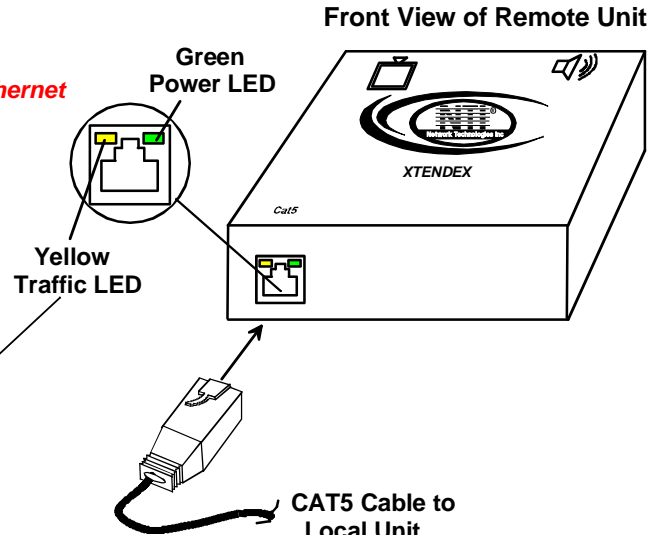
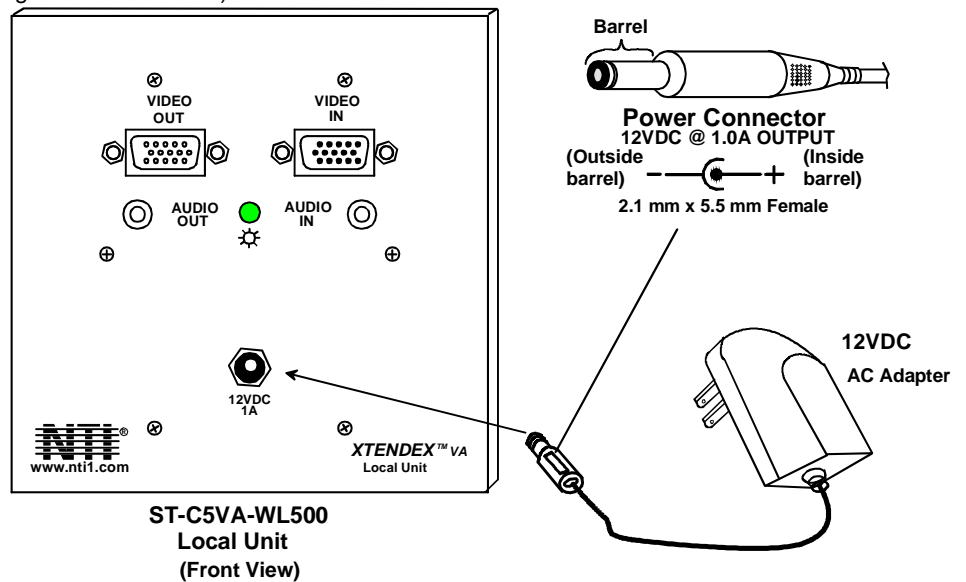

Figure 6- Connect the CAT5 cable to the Remote Unit
Figure 7- Connect the AC adapter to the Remote Unit
Make sure the CAT5 cable has been installed in accordance with the “Preparation for Installation” instructions on page 3. Connect the CAT5 cable to the “Cat 5” port on the Remote Unit (see Fig. 6). When properly inserted the CAT5 cable end should snap into place.
2. Connect the 12VDC AC adapter power connector to the 12VDC port on the Local Unit (see Fig. 7). Plug the AC adapter into a power outlet. The green LED on the RJ45 connector of the Remote Unit and the power LED on the wallplate of the Local Unit should each illuminate, indicating that a proper power connection has been made to them (see Fig. 6). (The Remote Unit is powered by the Local Unit through the CAT5 cable.)